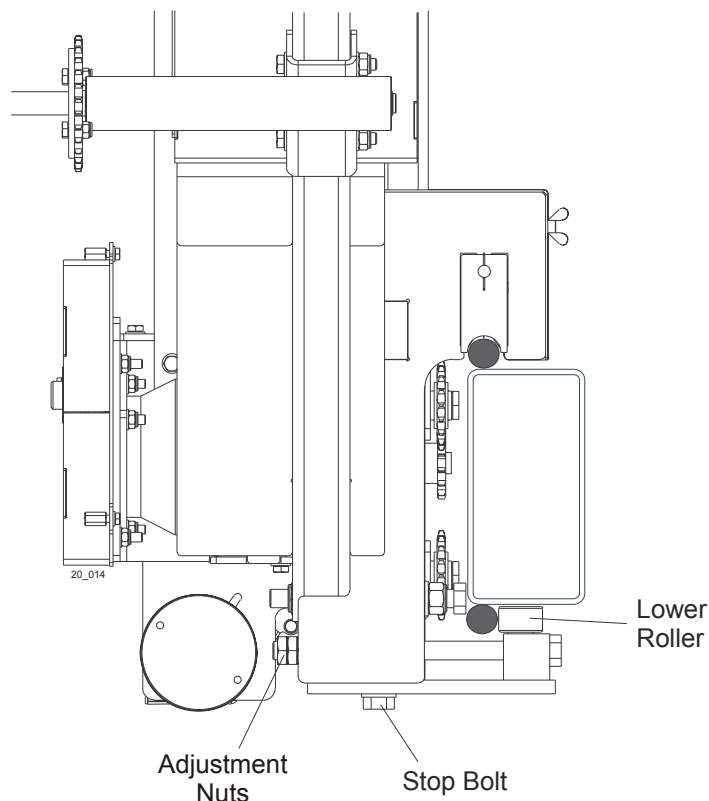

**FIG. 5-9**
**See Figure 5-9.** Use the horizontal adjustment screw to adjust the drive-side blade wheel. Loosen the jam nut on the adjustment screw. Loosen adjustment screw to move blade out on wheel. Tighten adjustment screw to move blade in on wheel. Tighten the jam nut.